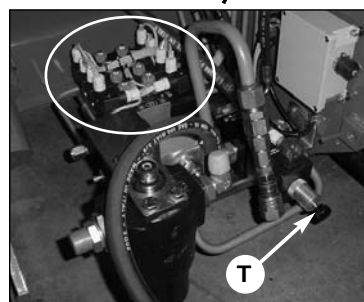

fig. 11a
T electric deviator of the crane-outriggers (fig. 11a)
- tighten the **T** screw (fig. 11a)
- to reactivate the crane functions loosen the **T** screw, to the previous position (see fig. 11a)